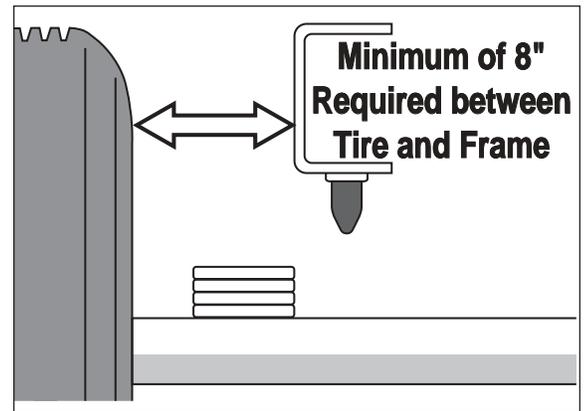
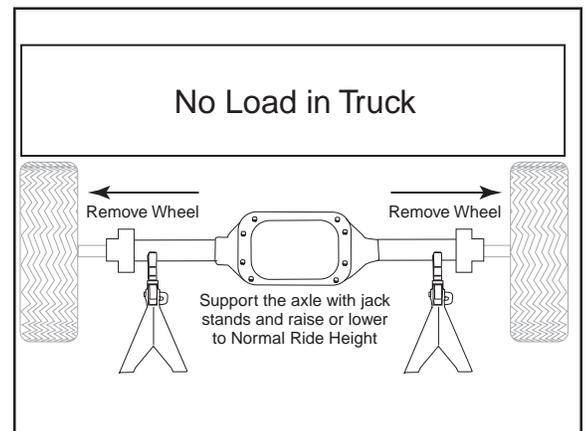

Figure 2
Figure 3
1. Raise the vehicle, remove the wheels, and obtain normal ride height (Figure 2, Figure 3).